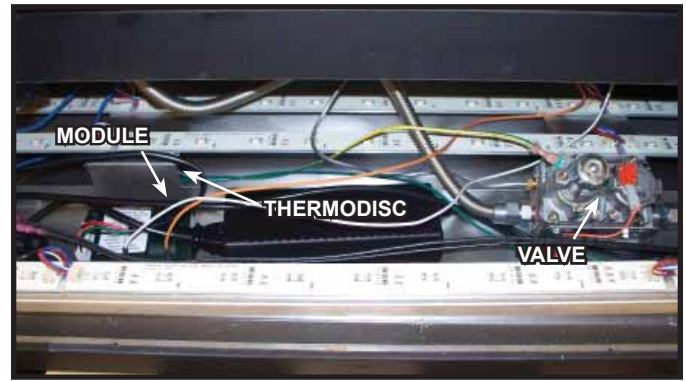

Figure 8.4 Valve Cavity
**Note:** If the fan is moved from one side to the other, the valve, all electrical components, including the thermodiscs, must also be moved to the opposite side of the appliance. See appropriate configuration in relation to the valve in Figures 8.4 and 8.5. In addition, two jumper wires will be required between the two 107-559a wire harnesses that plug into the junction box. These wires must be 24 inches in length, made from 14 gauge AWG wire (or equivalent), have a 1/4 inch male insulated terminal at each end and be made by a licensed electrician following all local electrical codes.